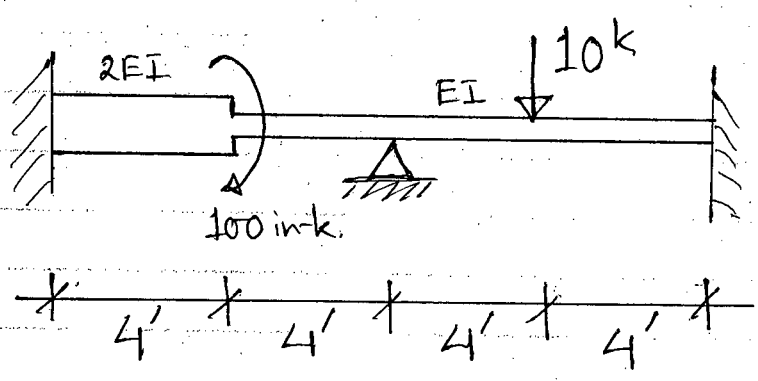

Fig. 13
(b) Identify the nodes and members of the beam in Fig. 13 to analyze it using Stiffness method for computer application. Derive stiffness matrix of each member and assemble them into global stiffness matrix. Derive member load matrix and global load matrix. Write down the stiffness equations in matrix form for the unsupported structure. Given: $E = 3000 \text{ ksi}$, and $I = 1000 \text{ in}^4$. (25)